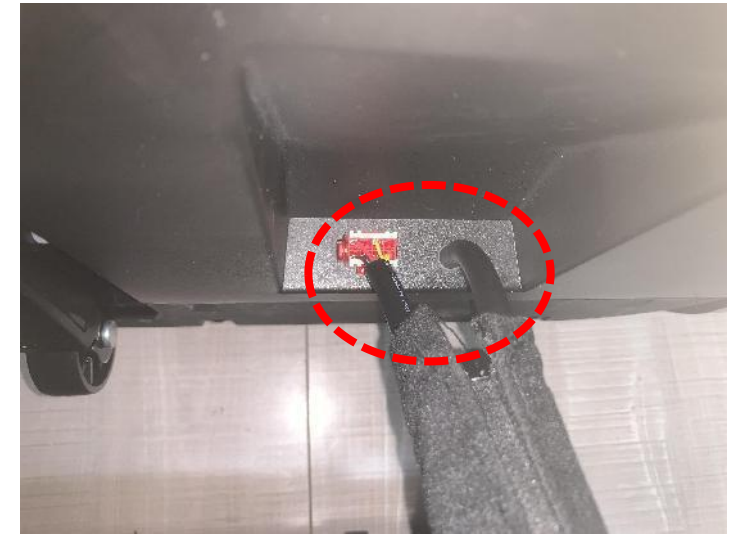

Figure 3
3. Separate the plug-in trachea (Figure 3)